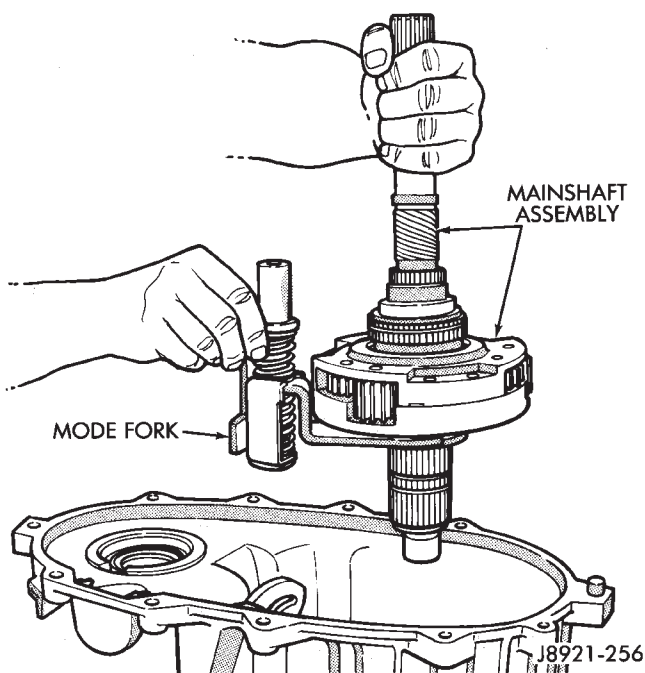

Fig. 17 Removing Mode Fork And Mainshaft
(29) Remove mode fork and mainshaft as assembly (Fig. 17).